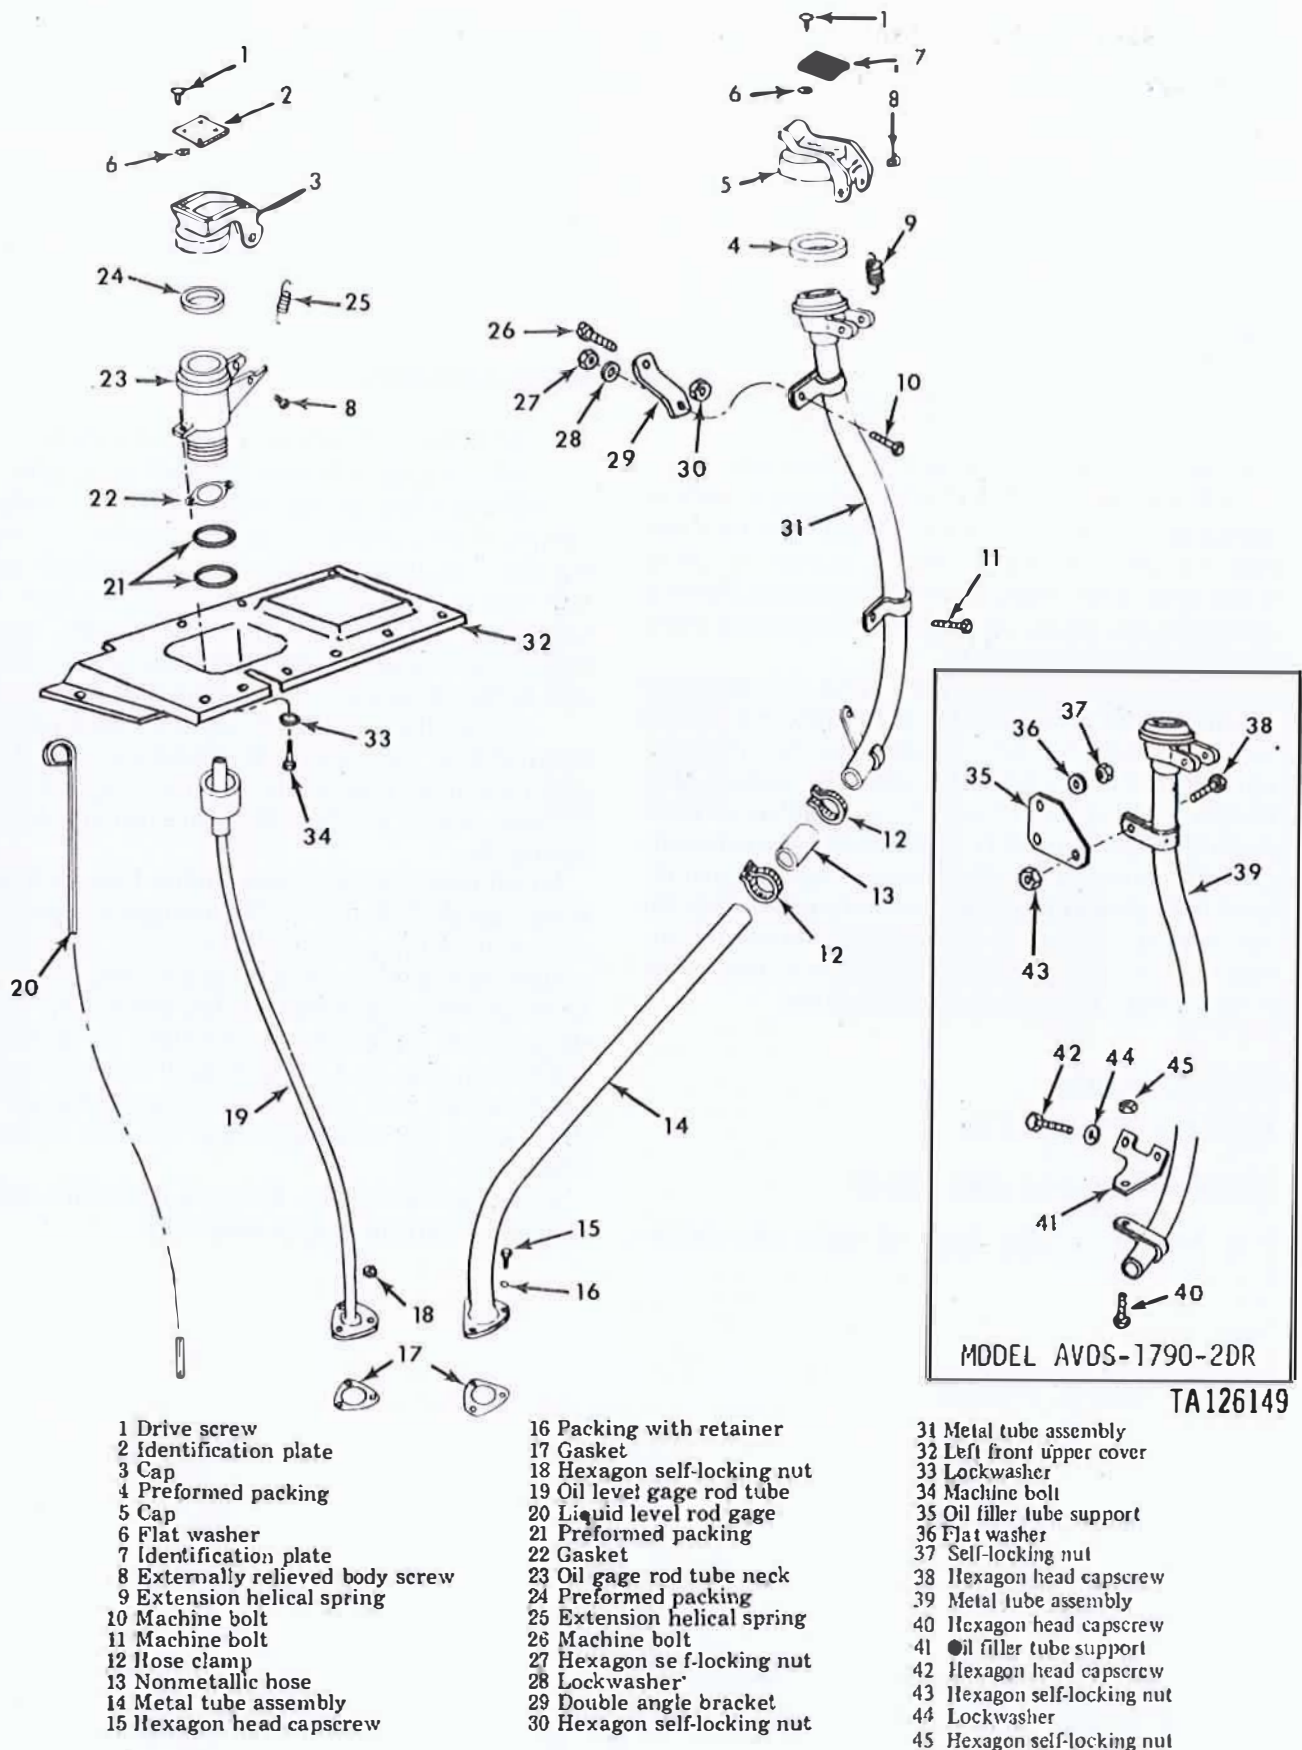

Figure 3-275. Oil filler and oil level indicator tubes and associated parts - exploded view.
(1) Remove oil filler tube extension helical spring (9, fig. 3-275). Do not remove two externally relieved body screws (8) unless inspection (para 3-126c) indicates replacement is necessary. Screws are staked in place. Remove and discard oil filler cap preformed packing (4).
(2) Remove two machine bolts (34) securing assembled oil gage cap to left front upper cover (32) and remove assembled oil gage cap cover. Remove and discard oil level indicator neck gasket (22). Remove and discard two oil level indicator neck preformed packings (21). Remove oil gage tube helical extension spring (25). Remove and discard oil level indicator tube cap preformed packing (24). Do not remove two externally relieved screws (8) unless inspection (para 3-126c) indicates replacement is necessary. Bolts are staked in place.
- c. Inspect externally relieved screws (6 and 32, figure 3-275) for looseness or damaged shoulder area.
(1) If necessary, install two new externally relieved body screws (8, fig. 3-275) and stake in place. Install oil level indicator tube cap preformed packing (24). Install extension helical spring (25). Install two new preformed packings (21) on oil gage rod tube neck (23). Using a new gasket (22), install assembled oil gage cap on left front upper cover (32) and secure with two machine bolts (33).
(2) Install new oil filler cap preformed packing (4) in oil filler tube cap (5). If necessary, install two new externally relieved body screws (8) and stake in place. Install oil filler tube cap extension helical spring (9).